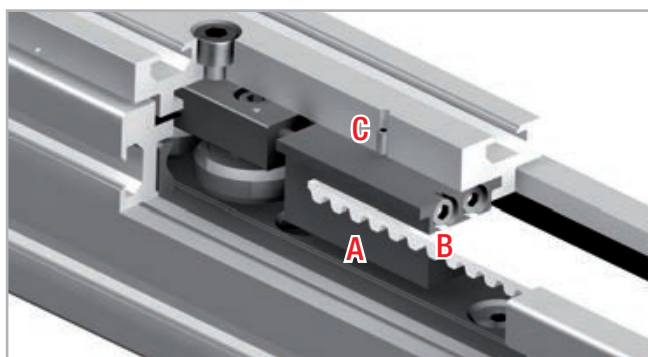

Fig. 33
1. Unscrew the safety screws C (on top of the slider plate) from the belt tensioning device A (see fig. 33).